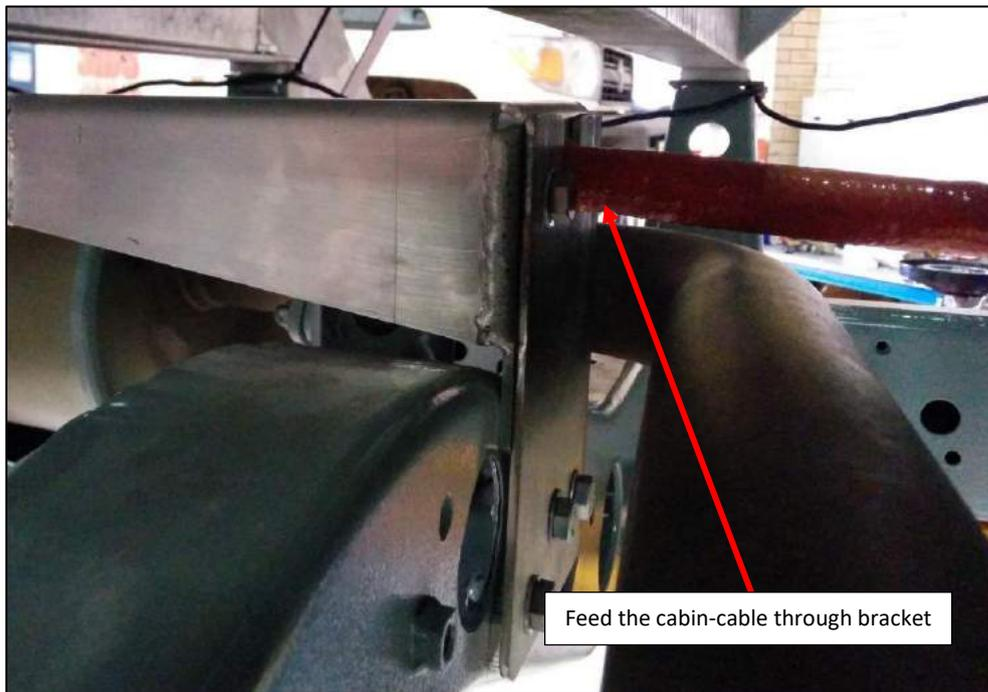

Figure 25
12. **[Over cross-member type bracket (2) only].** Feed the cabin-cable through the hole in the bracket (Figure 25).